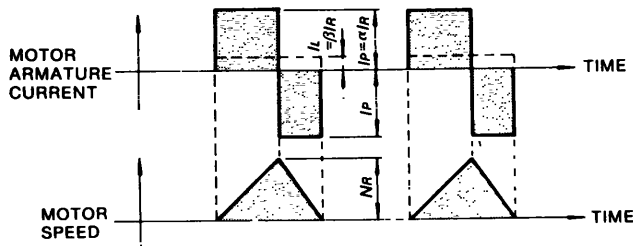

Fig 4 4 Timing Chart of Motor Armature Current and Speed
- When the motor accelerates, runs at constant speed, and decelerates in a continuing cycle without being at standstill (Fig 4 5)